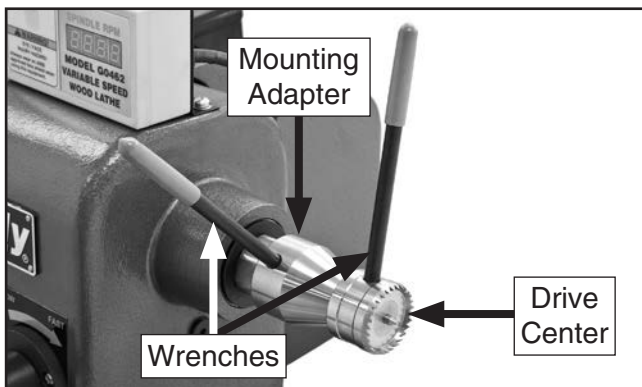

Figure 2. Attaching drive center to adapter.
5. Place wrenches in both mounting adapter and drive center, as shown in **Figure 2**. While holding mounting adapter, firmly tighten drive center.